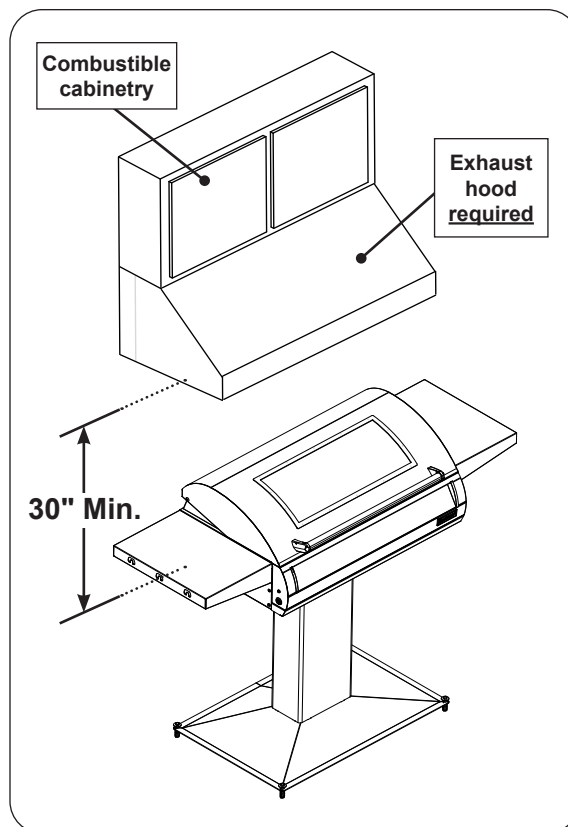

Fig. 10-2 Overhead cabinetry requirements
- **An exhaust hood is required.** A minimum clearance of 30" (Fig.10-2) is required between the cooking surface and the exhaust hood. Any overhead cabinetry must be directly above the exhaust hood. Cabinetry extending to the left or right of the exhaust hood is not permitted.